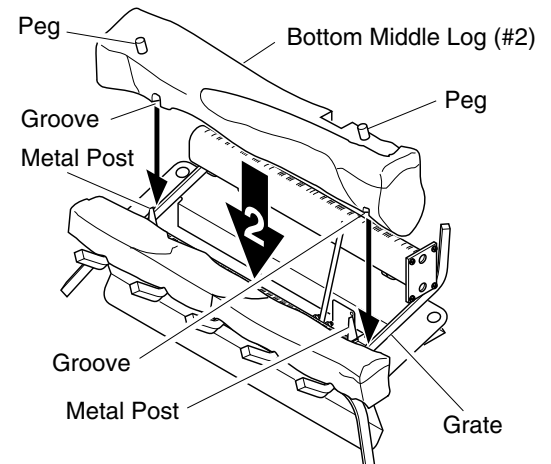

Figure 23 - Installing Bottom Middle Log (#2)
2. Rest bottom middle log (#2) behind metal posts on front burner. Make sure the grooves in the bottom of the log fit over the grate. Bring the log forward next to the metal posts. The pegs on the log must be on top (see Figure 23).